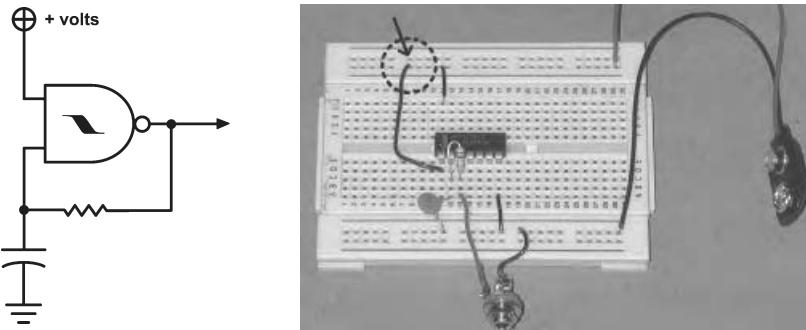
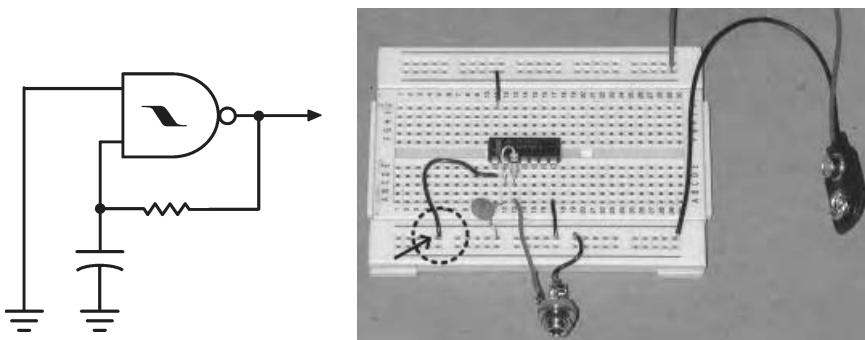

Figure 20.2 Basic NAND Gate oscillator, enabled.
Figure 20.3 Basic NAND Gate oscillator, disabled.
Hook up the circuit shown in figure 20.2. Note that the basic design is similar to our earlier oscillator: a capacitor between an input and ground; a feedback resistor from the output back to the input. But where each stage in the Hex Inverter package had just one input, each NAND gate has *two* inputs. Because of the combinatorial logic of the NAND gate, the second input of the gate can be used as a control input to turn the oscillator on and off: the output of the circuit will only change state (i.e., oscillate) when the control input is held “high” (+9 volts). If you connect the second input of the gate to ground (0) the circuit stops oscillating and the output remains in a “1” state (see figure 20.3).
the gate input (pin 1 in figure 20.2 and figure 20.3) and alternate connecting the other end to the + and ground buses. The two inputs to each gate are identical—it doesn't matter which you use for the "control input" (the one with the wire moved between + and ground) and which for the "feedback input" (the one with the capacitor and feedback resistor), as long as you don't mix up the two and connect the capacitor and to one and the feedback resistor to the other, for example. And you can use any of the four NAND gates on the chip—they function identically—the photos show just one of four possible hookups.
The control input on Oscillator 1 is tied directly to +9 volts, so it runs all the time, as we demonstrated earlier in figure 20.2). But the control input of Oscillator 2 is connected to the *output* of Oscillator 1, which gates Oscillator 2 on and off as it swings between ground and 9 volts. If the Oscillator 1 (the control oscillator) has a large capacitor and runs